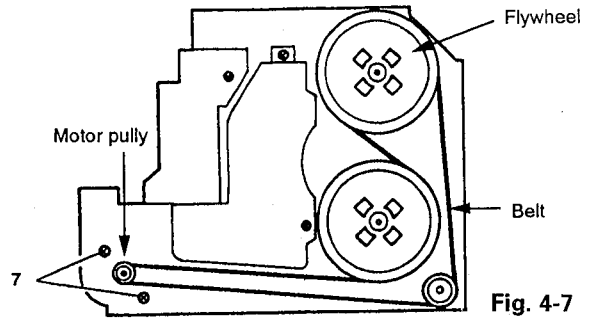

Fig. 4-7
■ **Motor assembly and Belt** (Fig. 4-7)
1. Place the cassette mechanism assembly upside down and hold the belt by a protrusion of the chassis to prevent it from getting soiled with oil, etc., and then remove two screws (7) retaining the motor assembly.
2. When re-engaging the belt for replacement, etc., make sure to engage it with the flywheels and the pulleys as shown in Fig. 4-7.